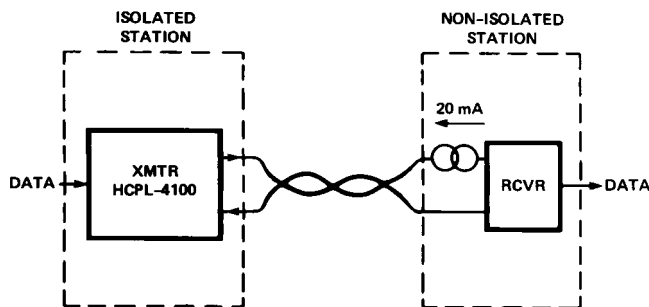

Figure 12. Simplex Point to Point Current Loop System Configuration.
- Derate linearly above a free-air temperature of 70°C at a rate of 2.3 mW/°C. A significant amount of power may be dissipated in the HCPL-4100 output circuit during the transition from the SPACE state to the MARK state when driving a data line or capacitive load ( $C_{OUT}$ ). The average power dissipation during the transition can be estimated from the following equation which assumes a linear discharge of a capacitive load:  $P = I_{SC} (V_{SO} + V_{MO})/2$ , where  $V_{SO}$  is the output voltage in the SPACE state. The duration of this transition can be estimated as  $t = C_{OUT} (V_{SO} - V_{MO})/I_{SC}$ . For typical applications driving twisted pair data lines with NRZ data as shown in Figure 12, the transition time will be less than 10% of one bit time.
The simplex configuration, whether point to point or multidrop, gives unidirectional data flow from transmitter to transmitter(s). This is the simplest configuration for use in long line length (two wire), moderate data rate, and low current source compliance level applications. A block diagram of simplex point to point arrangement is given in Figure 12 for the HCPL-4100 transmitter optocoupler.